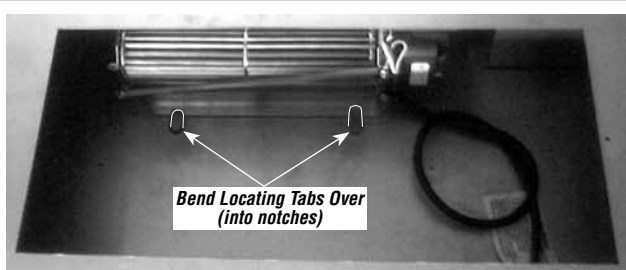

Figure 24 - VRT3542WS Shown
Step 4. Locate the tabs shown in **Figure 23**. Position the blower assembly so that the tabs (located on the cabinet base) are seated in the notches of the blower bracket. Bend the tabs over to secure the blower assembly (see **Figure 24**).